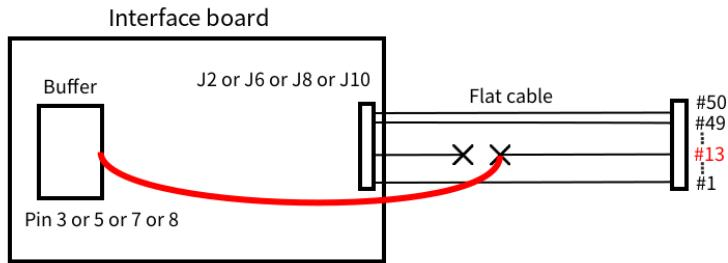

Figure 1.22: How to connect the #13 wire to the buffer.
7. Pins 3,5,7,8 of the buffer chip represent the output of the buffer. Connect each pin to the wire number 13 of the flat cables coming off J2, J6, J8 and J10. The order is not relevant. Of course, in the case of the SideMRD, only one connection is needed (for example J2). Refer to Figure 1.22 for a visual explanation.